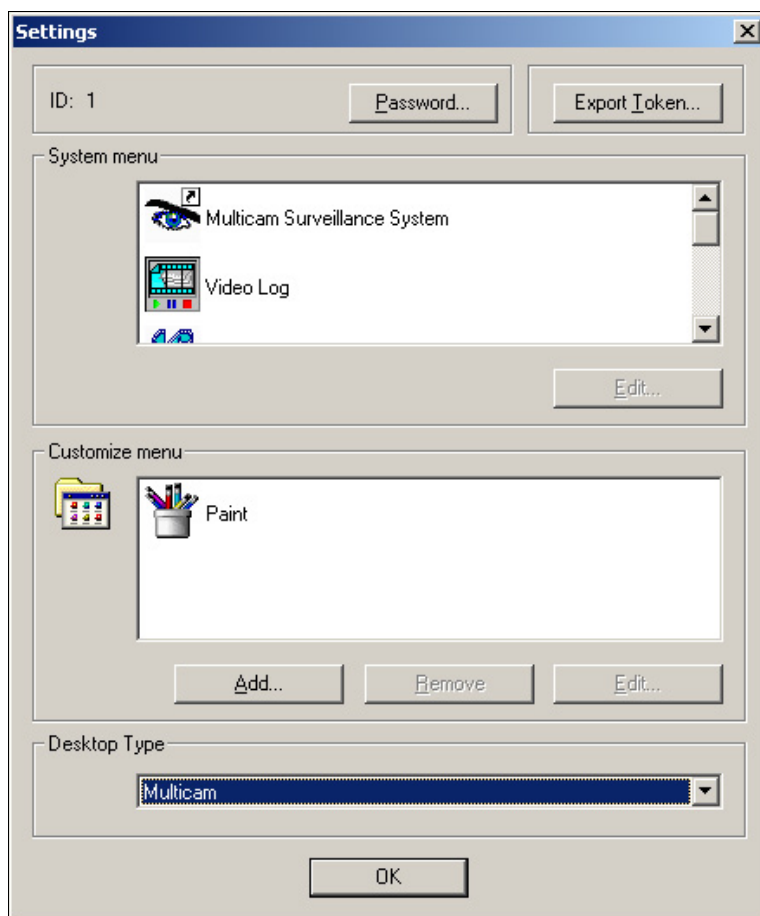

Figure 11-20
7. When the Settings window appears (Figure 11-20), select **Windows** in the Desktop Type field, and then exit from the window.